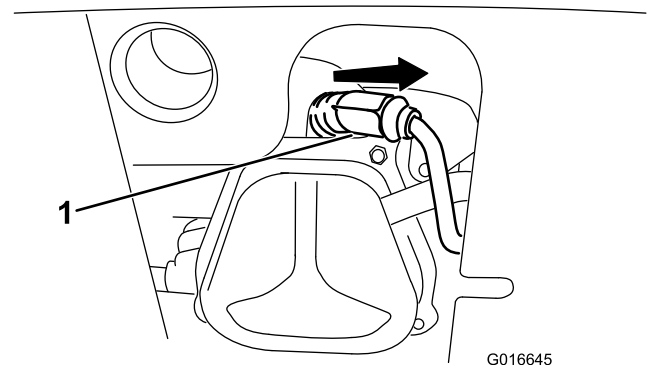

Figure 38
1. Remove the boot (Figure 38).